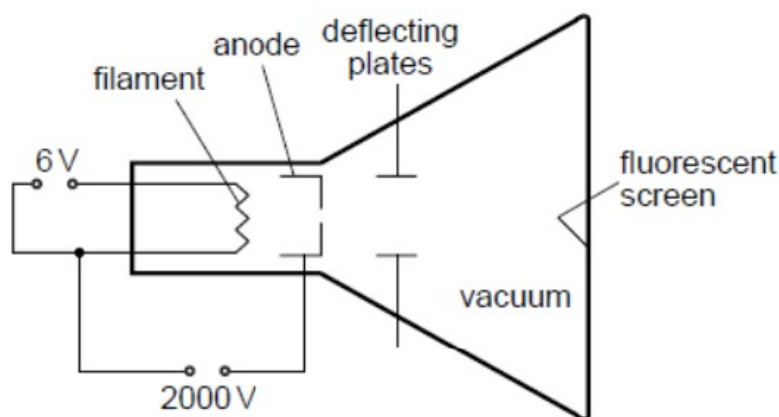

Fig. 7.1
4. Fig. 7.1 shows a simple version of an electron-beam tube.
(b) An alternating potential difference of very low frequency is applied across the deflecting plates in Fig. 7.1. The spot of light on the screen is seen to move. Describe and explain the movement of the spot.